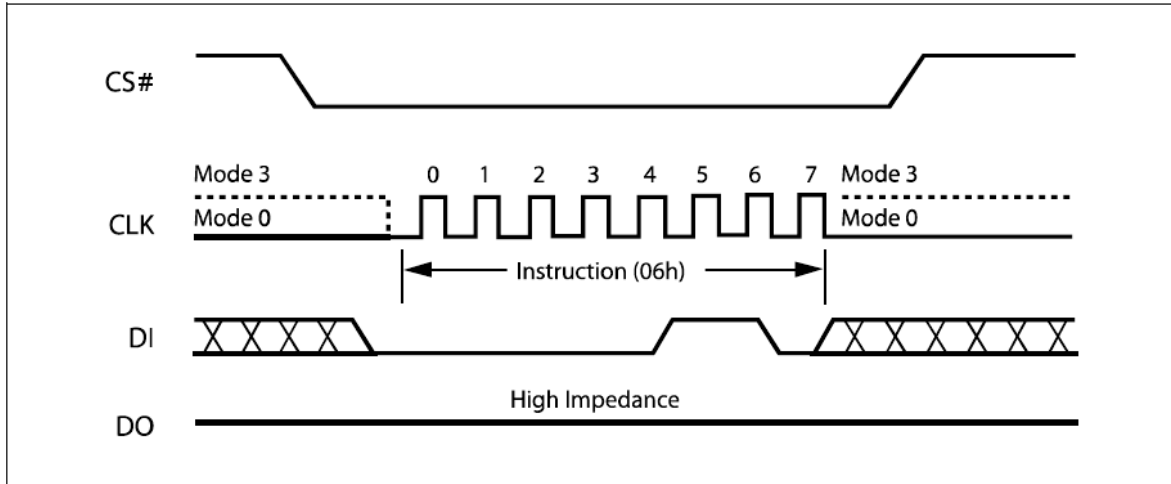

Figure 5. Write Enable Instruction Sequence Diagram
The Write Enable (WREN) instruction (Figure 5) sets the Write Enable Latch (WEL) bit. The Write Enable Latch (WEL) bit must be set prior to every Page Program (PP), Sector Erase (SE), Half Block Erase (HBE), Block Erase (BE), Chip Erase (CE) and Write Status Register (WRSR) instruction. The Write Enable (WREN) instruction is entered by driving Chip Select (CS#) Low, sending the instruction code, and then driving Chip Select (CS#) High.